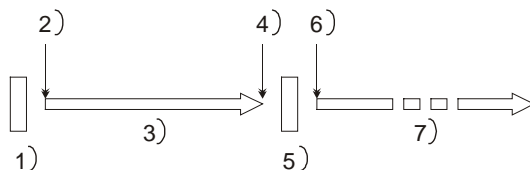

Figure 6
- Figure 6 show the relationship between the play and pause.